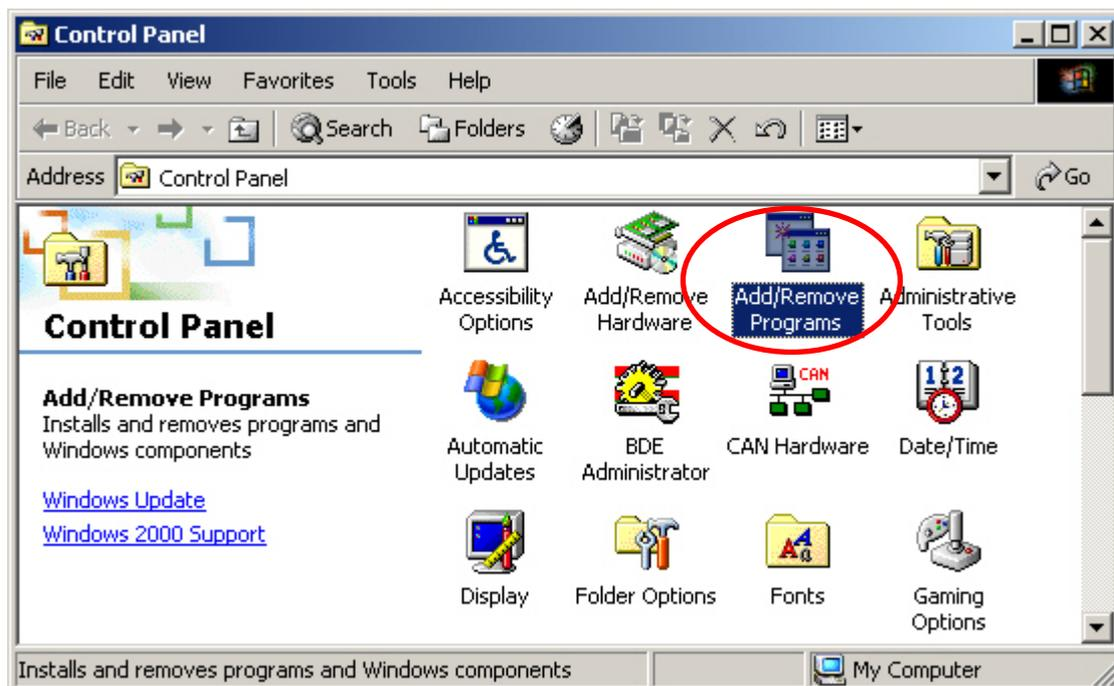

Figure 6-8 “Add/Remove Programs”
Step 2: Click the “Add/Remove Programs” button icon to open the dialog. See figure 6-8.